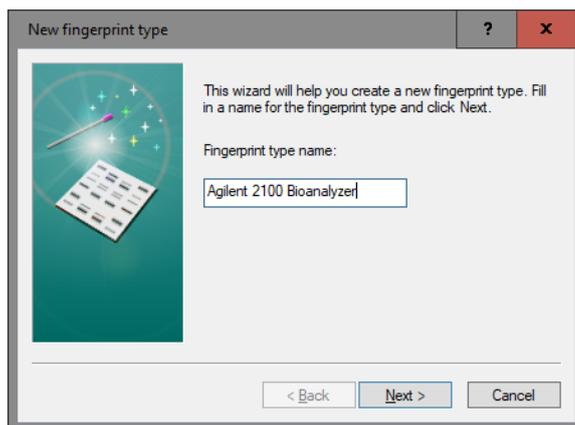

Figure 5: Specify an experiment name.
7. Press **<OK>**, enter a name, for example “Agilent 2100 Bioanalyzer” and press **<Next>** (see Figure 5).